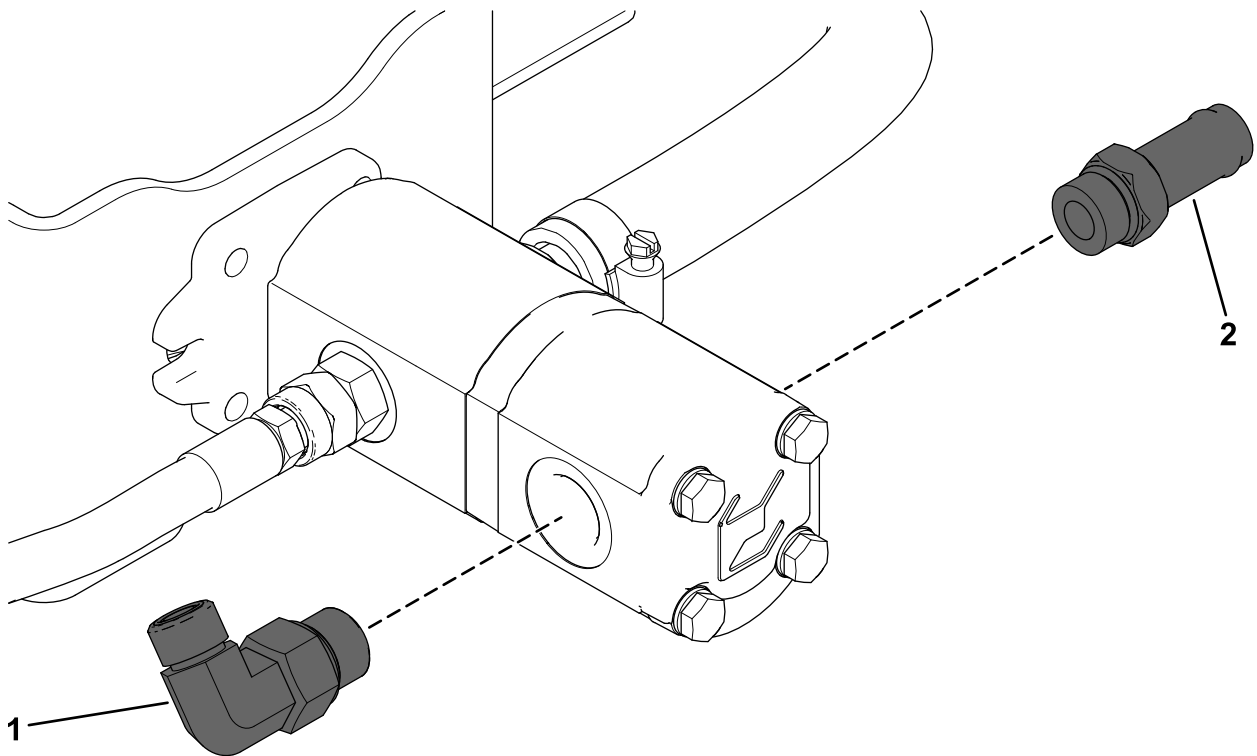

Figure 7
1. Thread the straight fitting into the driver's side of the pump (Figure 7).
2. Thread the 90° fitting into the right side of the pump (Figure 7).
When positioned correctly, the end of the fitting should point to the rear and should be angled upward at approximately 45° (Figure 7).